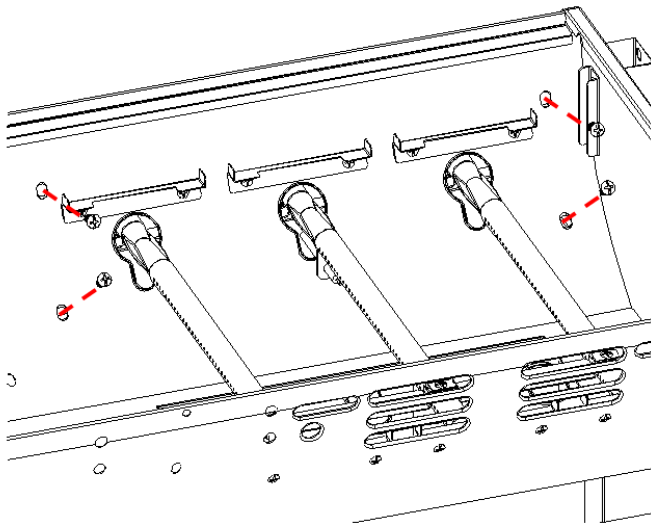
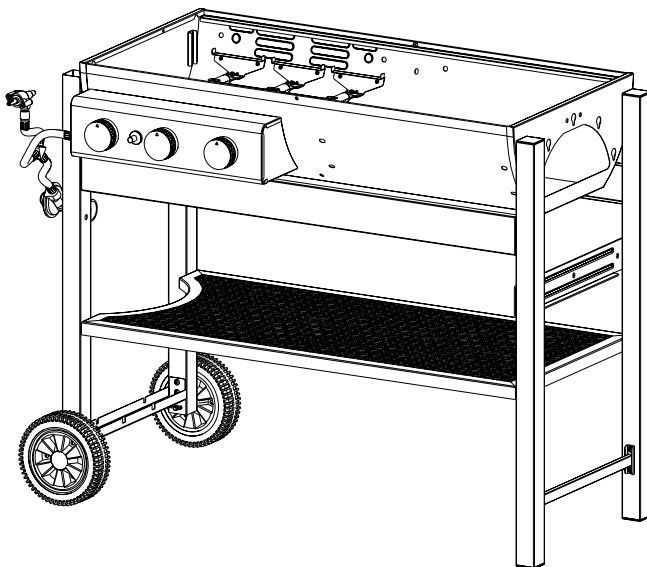

Fig. 10C
Fig. 10D
Attach the Control Panel Assembly to the Gas Cabinet using (4) M6x12 bolts from **INSIDE** of the cabinet as shown as Fig. 10C and Fig. 10D.